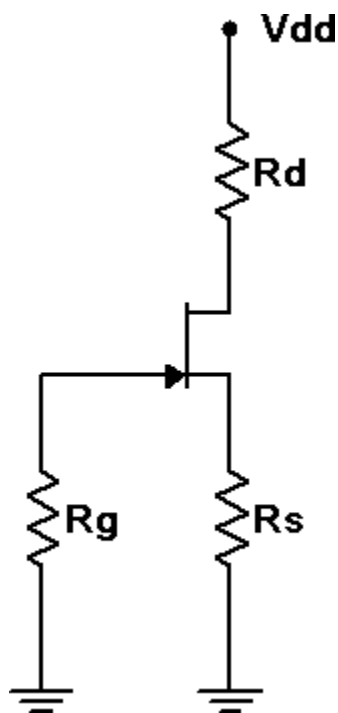

Figure 2
3. Consider the circuit of Figure 2 using  $V_{DD} = 15$  volts,  $R_g = 330\ k\Omega$ ,  $R_d = 4.7\ k\Omega$ , and  $R_s = 2.2\ k\Omega$ . Using the values of Table 1, calculate and record the expected voltages for JFET 1 in Table 2. Also record the expected drain current in Table 3.
4. Build the circuit of Figure 2 using  $V_{DD} = 15$  volts,  $R_g = 330\ k\Omega$ ,  $R_d = 4.7\ k\Omega$ , and  $R_s = 2.2\ k\Omega$ . Measure and record the voltages for JFET 1 in Table 2. Based on  $V_D$ , compute and record the experimental drain current in Table 3. Also determine and record the drain current deviation.